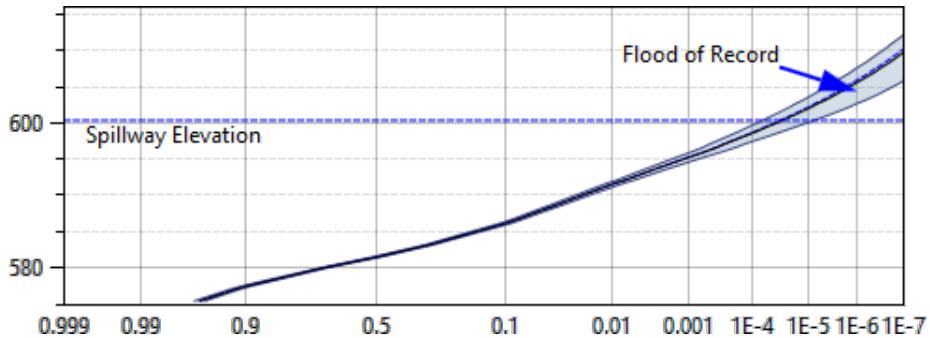

Figure 4.39: Example of plot annotations.
- Move annotations by clicking and dragging them to a new position. Figure 4.39 shows an example of an arrow and horizontal line annotation. You can edit the default annotation text by right-clicking on the annotation or through the plot properties window.